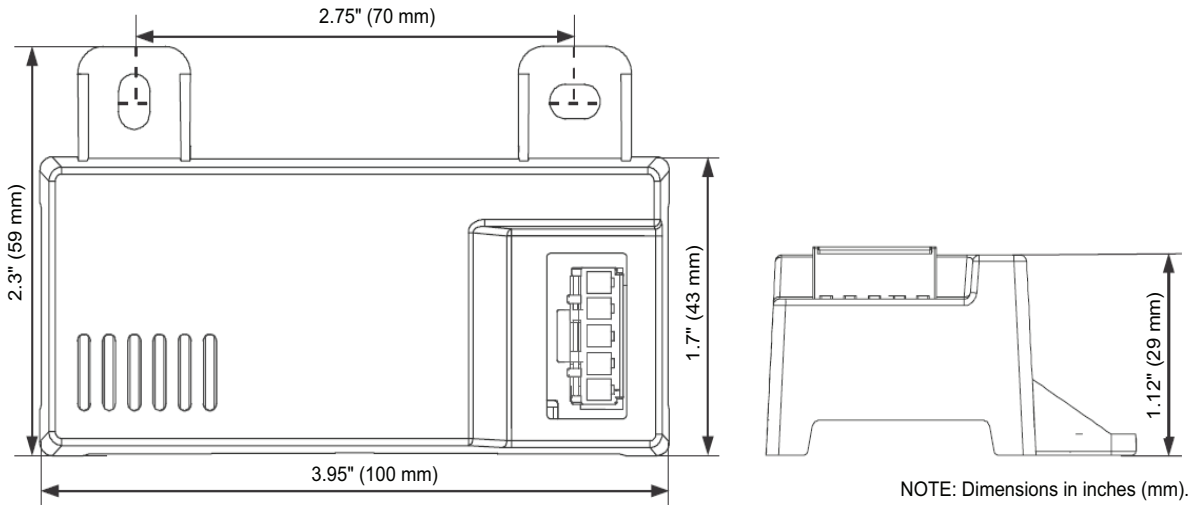
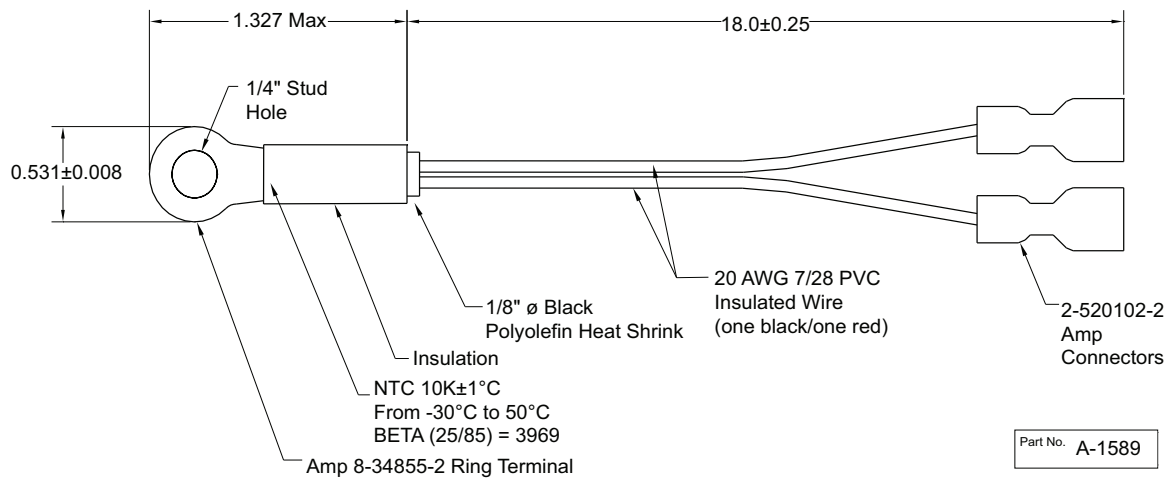
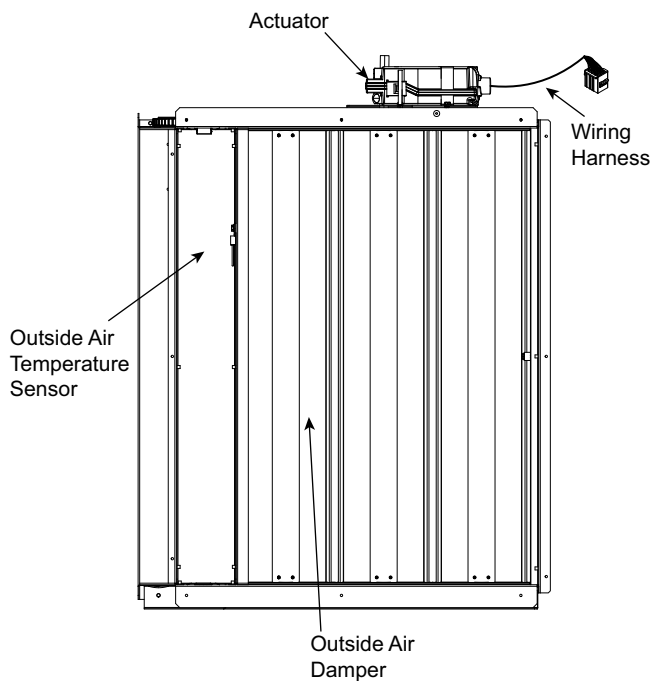

Fig. 86 – HH57LW001 Dimensional, Connection and Switching Information
Fig. 87 – HH79NZ039 Dry Bulb and Mixed Air Sensor Wiring
Fig. 88 – EconomizerONE Component Locations (CRECOMZR108A00 Shown)
When using the HH57LW001 enthalpy sensor (see Fig. 86) for outside air changeover, the existing HH79NZ039 dry bulb sensor (see Fig. 87) must be removed. The enthalpy sensor will be mounted in the same location as the dry bulb sensor (see Fig. 88). When the enthalpy sensor's OA (Outside Air) temperature, enthalpy, and dew point are below their respective setpoints, the outside air can be used for free cooling. When any of these are above the setpoint, free cooling will not be available. Enthalpy setpoints are configurable and create an enthalpy boundary according to the user's input. For additional details, see Fig. 89-90 and Table 30.
The optional enthalpy control sensor (P/N: HH57LW001) communicates with the POL224 economizer controller using the 5-wire harness, 48TC005213. The HH57LW001 sensor can be used as a single outside air enthalpy, a differential return enthalpy, or a differential return temperature sensor. Refer to the base unit control wiring diagrams found earlier in this book to wire the HH57LW001 enthalpy sensor for each option. Use Fig. 86 and Table 32 on page 72 to locate the wiring terminals for each enthalpy control sensor.
Economizers are shipped standard with an HH79NZ039 outside air dry bulb sensor (see Fig. 87). System default setting (high temp limit) is 63°F (17°C) and has a range of 48°F to 80°F (9°C to 27°C). Sensor is factory installed on economizer.
If installing the optional HH57LW001 enthalpy sensor, the HH79NZ039 dry bulb outside air sensor must first be removed. Wire sensor to harness 48TC005213 and the (5) wires from the harness to the EconomizerONE harness in the return air chamber. Harness 48TC005213 has a 5-pin plug that connects directly to the HH57LW001 enthalpy sensor. Refer to the base unit control wiring diagrams earlier in this book for wiring connections. Refer to Fig. 86 and Table 32.